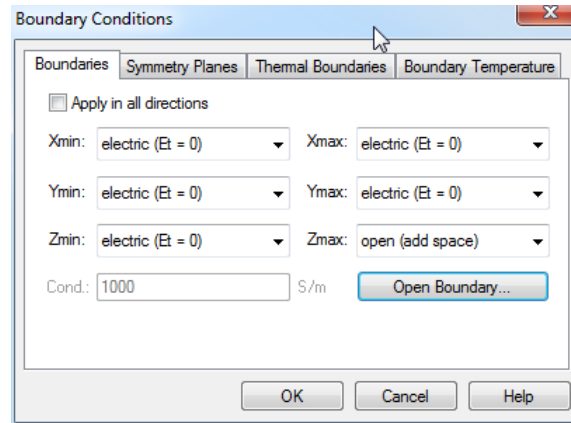

Figure 1.1: Settings for the boundary conditions of the simulations. All except 'Zmax' are set to 'electric ( $E_t = 0$ )'. 'Zmax' is set to 'open(add space)'.
- Again under '*Simulation*' click '*Boundaries*' and set the fields as in figure 1.1